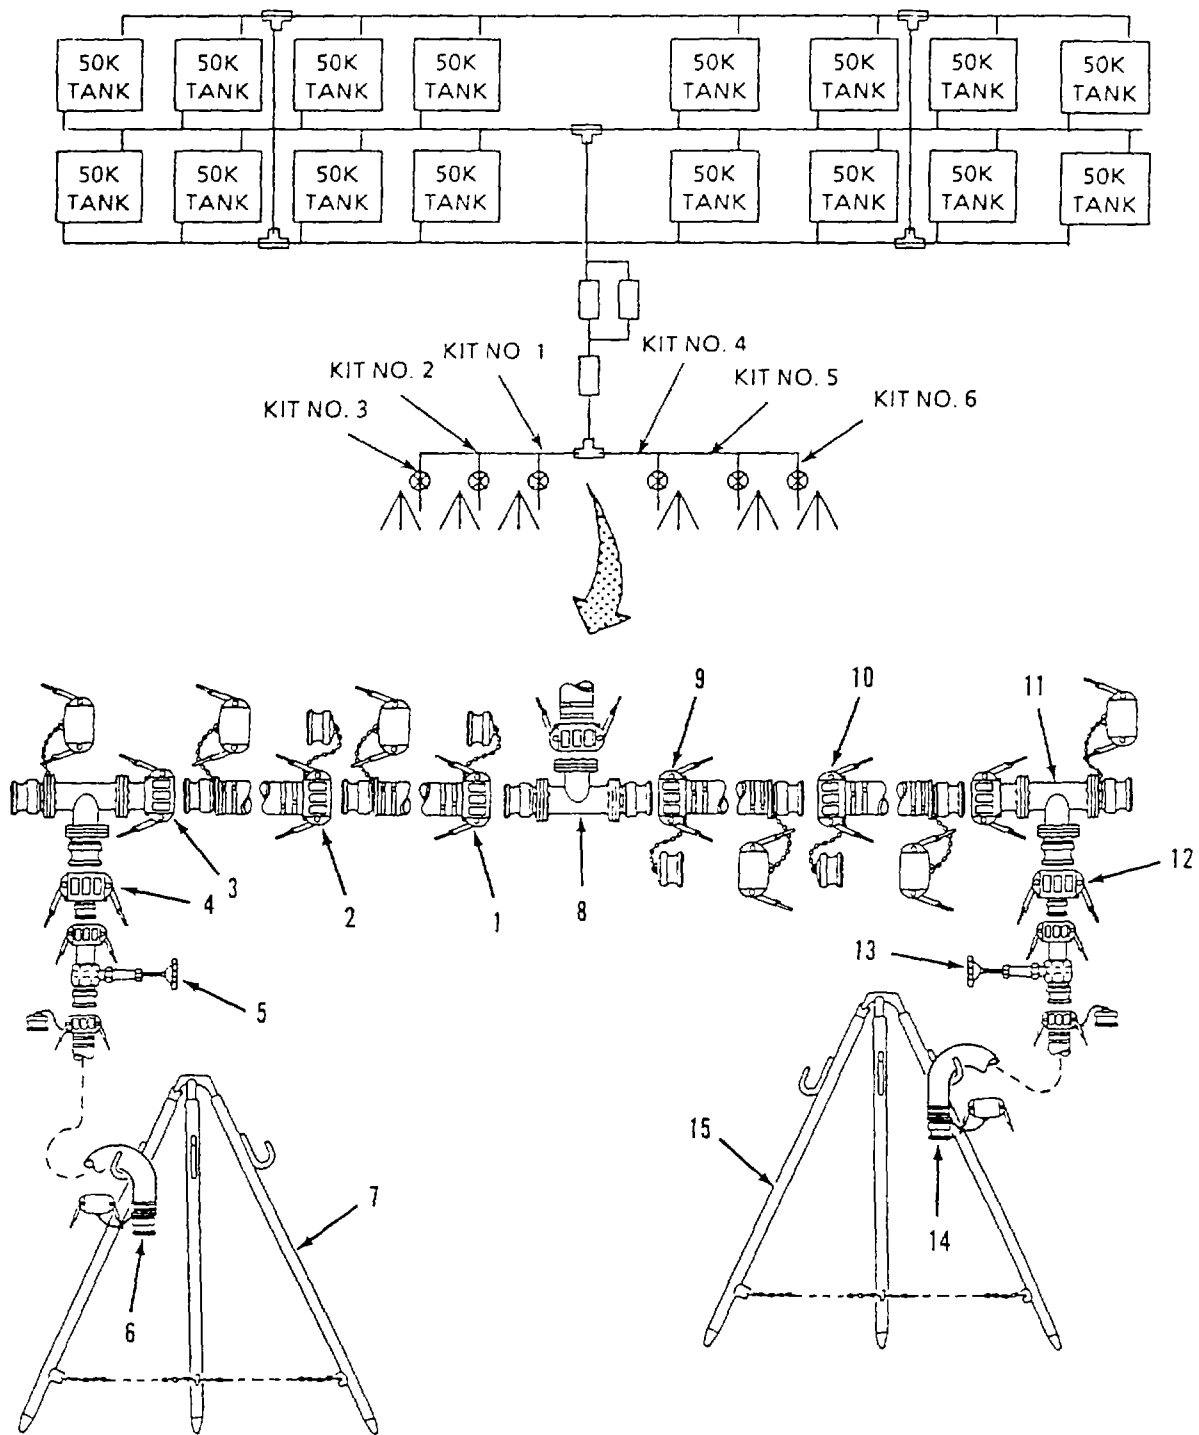

Figure 2-29. 2-Inch Hose Connection Kit Disassembly.
- e. Disassemble 2-Inch lose Connection Kits . Refer to figure 2-29.